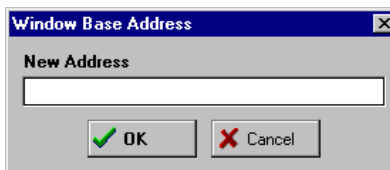

Figure 6-5. *Window Base Address* Dialog
- **Set PC at Cursor:** Choose this option to set the Program Counter (PC) to the current cursor location.
- **Gotil Address at Cursor:** Choose this option to execute the source code until the Program Counter (PC) gets to the line at the current cursor location. When PC gets to that point, execution stops.
- **Set Base Address:** Choose this option to open the *Window Base Address* dialog (Figure 6-5) and set the new address for the first code line in the Code Window.